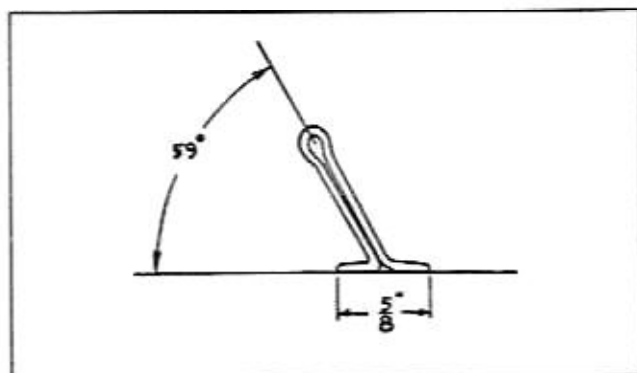

Fig. 6-35 Tool for Removing Upper Half of Main Bearing
4. Make a tool for removing upper half of bearing shell as shown in Fig. 6-35.